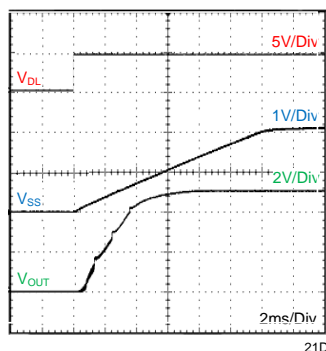
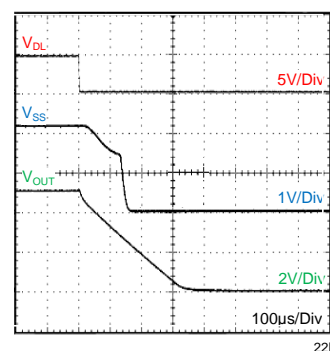

Figure 9. Deadlock start-up  $I_{OUT} = 2A$
Figure 10. Deadlock shut-down  $I_{OUT} = 2A$
Turning Q1 on applies a low voltage to the deadlock control (DL) pin and disables the output of the supply, shown in Figure 10. If Q1 is turned off, the supply executes a soft-start power-up sequence, as shown in Figure 9. A regulated output voltage is produced within 5 ms.